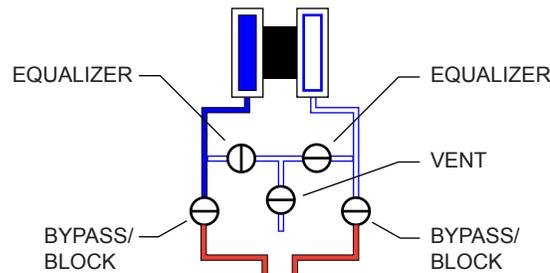

Figure 2.17—Valve positions for differential pressure calibration
1. Close the bypass valves to isolate the pressure below the manifold (Figure 2.17, page 50).